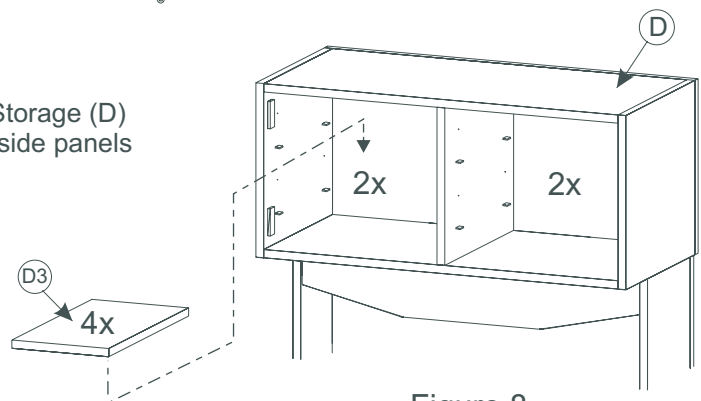

Figure 8
Install (4) Shelves (D3) (2 on each side) of Upper Storage (D) by installing (4) shelf pins per shelf into holes on inside panels (see Figure 8).